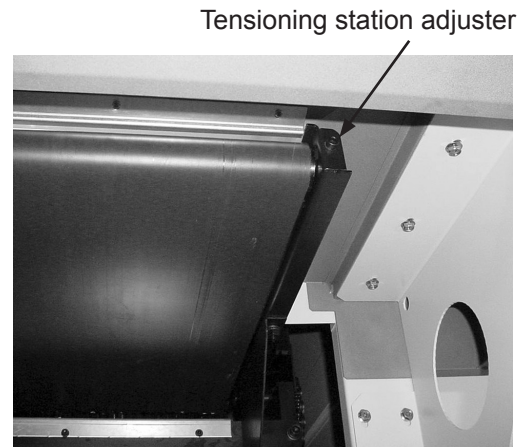

Fig. 1 Underside View of Feed Table and Infeed Conveyor
1. To remove covers, insert screwdriver through access holes (Fig. 1), and remove screws. Lift covers off frame hooks.
2. Remove the feed table and front panel of tensioning station (Fig. 1).